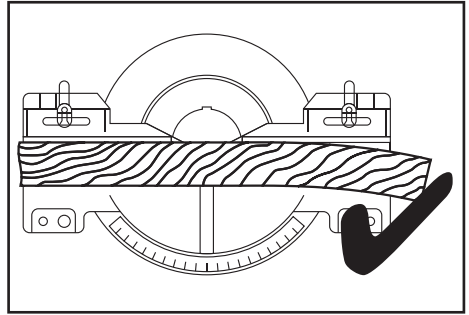

FIG.35
9.7 CUTTING CURVED OR WARPED MATERIAL – FIGS.35 – 36